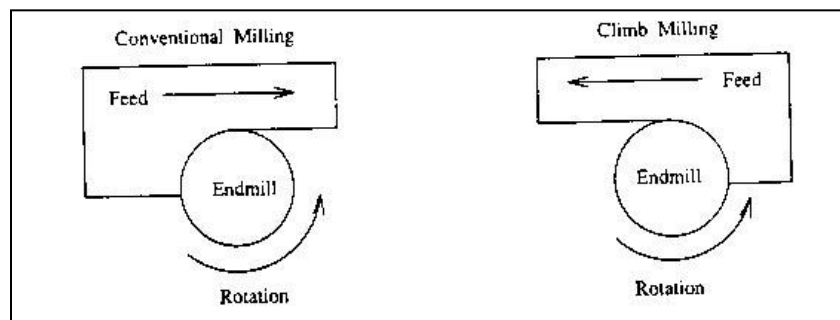

Figure 46: The Difference Between Conventional and Climb Milling.
5. Mill the 5/8” section, using cutting fluid. **CAUTION:** It is extremely dangerous to put your fingers or a fluid brush near a moving end mill. **DO NOT DO IT!** Cut all the way to the scribed lines. Use conventional milling (See Figure 46). Never cut deeper than 0.050” along the vertical